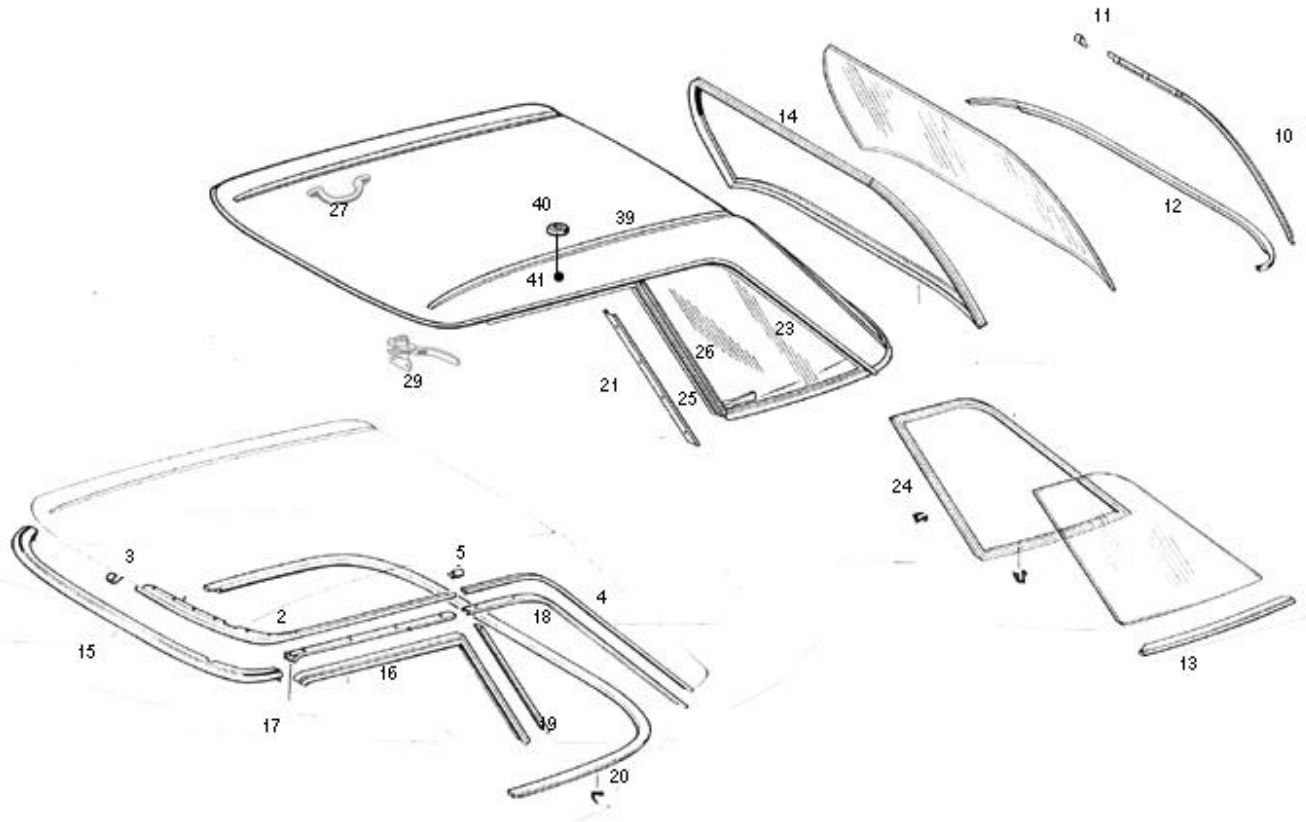
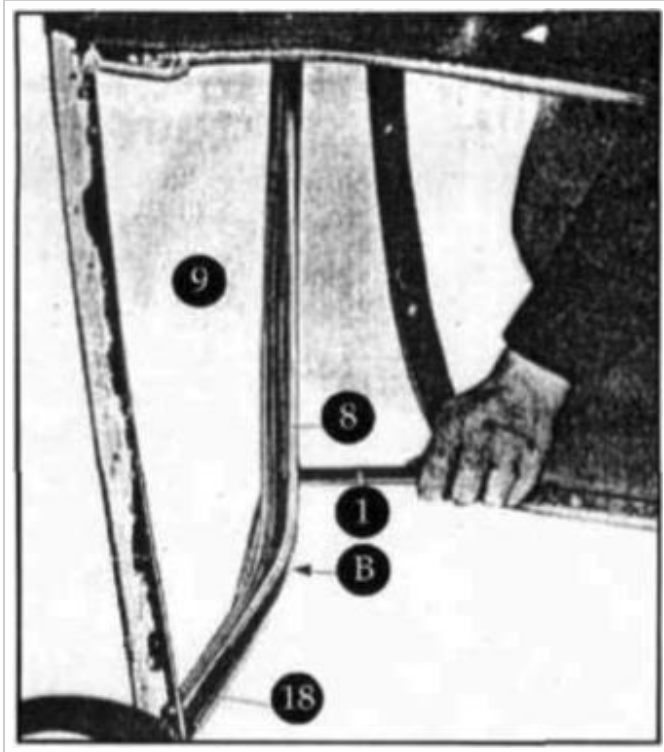

Figure 1: Fitting the hardtop's trim pieces properly is key
Figure 3: The glass can be pried out of it's channel
Every part removed from the hardtop should be marked left and right accordingly. Begin disassembly by removing all rubber gaskets, i.e. the top to windshield seal, the door glass seals, and the rear top to body seal. Since there are so many different moldings on this hardtop, we will refer to Figure 1 and use the numbers there for better
The most difficult part of disassembly is removal of the quarter windows. See Figures 1 and 2. The procedure is the same on the left and right side, starting with removal of the chrome trim piece (25) which comes off with the inserted rubber spacer (24). Next, remove the long rubber spacer (23). Use silicone spray or a similar lubricant to loosen the glass with its seal inside the channel. When the glass moves freely in the channel, cut the seal with a carpet knife and pull it out completely. Then take a wooden or plastic wedge and pry the glass out of the channel as shown in Figure 3. Don't worry too much about breaking the glass when prying it out of this channel. I have removed plenty of them and never broken one so far!